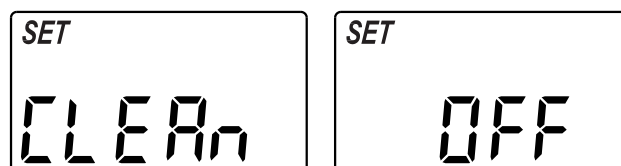

FIG. 28
2. Press the SELECT button twice again, so that "SET CLEAN OFF" or "SET CLEAN ON" flashes in the display (See Figure 28).